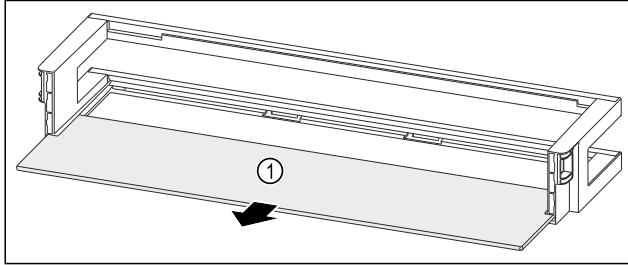

Fig. 91 Door rack with shelf
- ▶ Remove the shelf Fig. 91 (1).